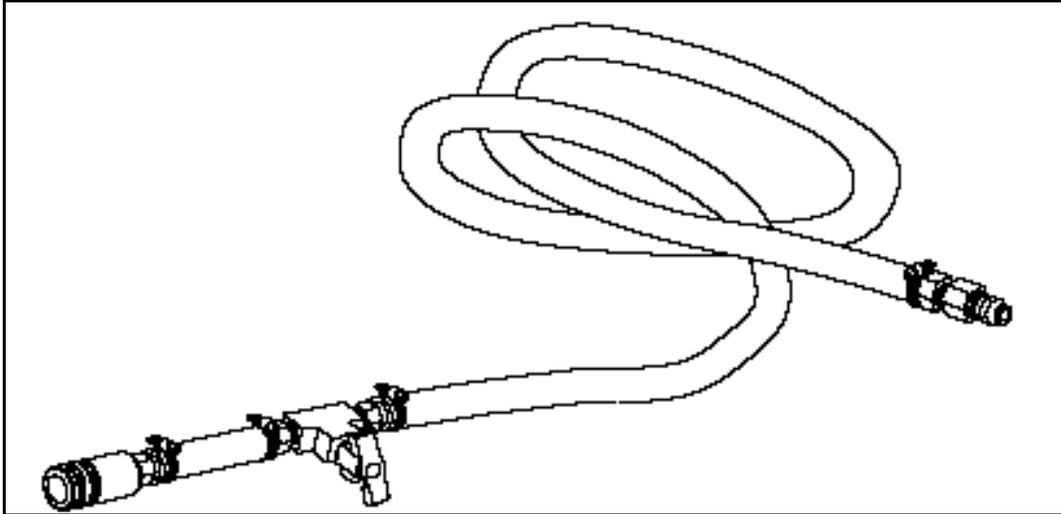

Figure 2
- Fuel Supply Hose. Figure 2 The fuel supply hose connects between the fuel can gravity feed adaptor and the fuel flow control valve. It supplies fuel to the H-45. A “T” connector with petcock permits fuel to be drained off into the measuring cup for priming.